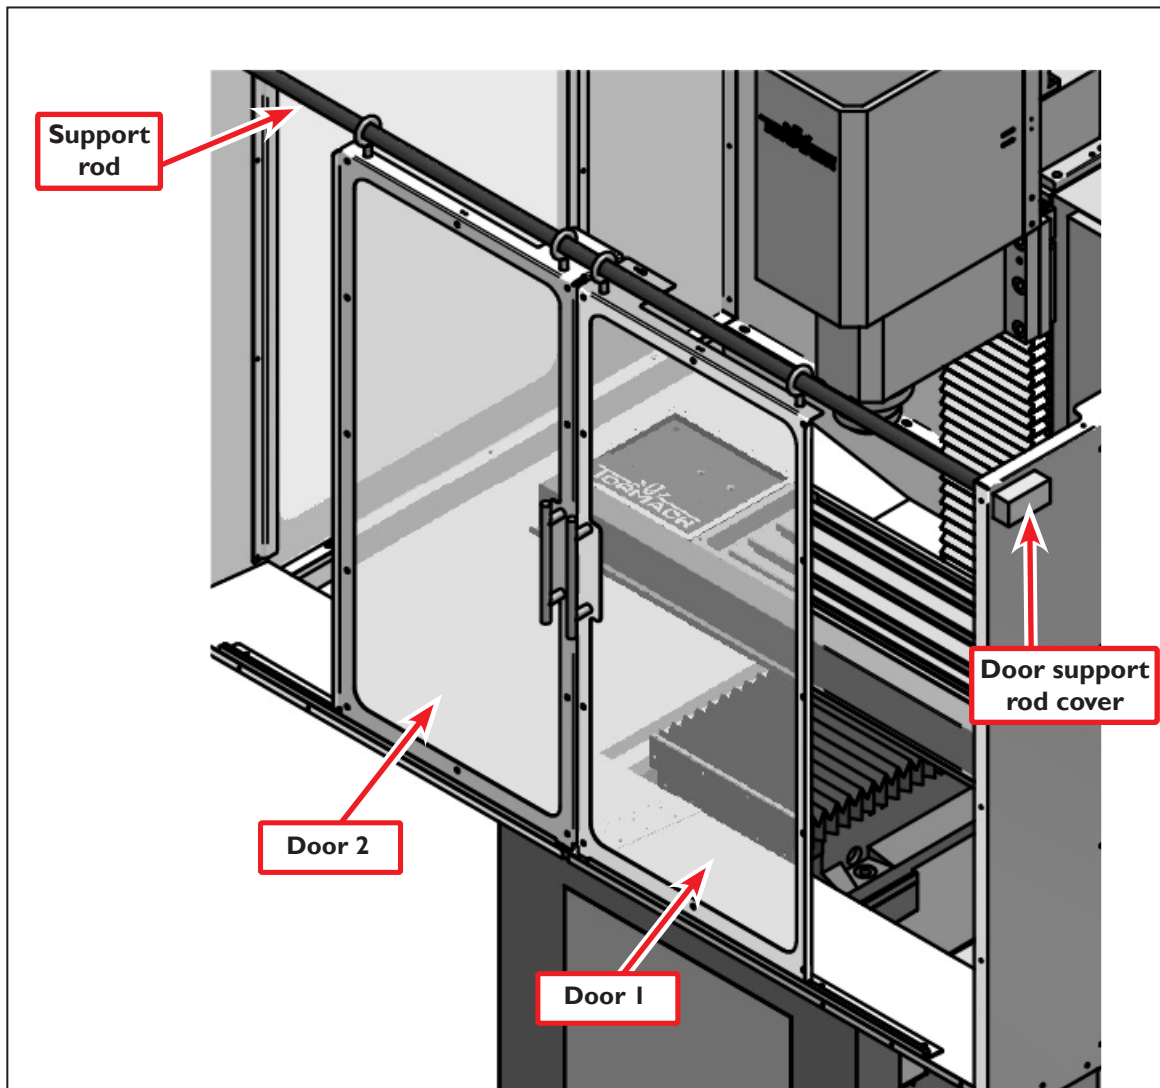

Figure 26
67. Remove the Door Support Rod Cover (E.11) from one of two side panels (E.16 or E.17) as shown in **Figure 26**.
NOTE: Door side panels not shown in **Figure 26**.